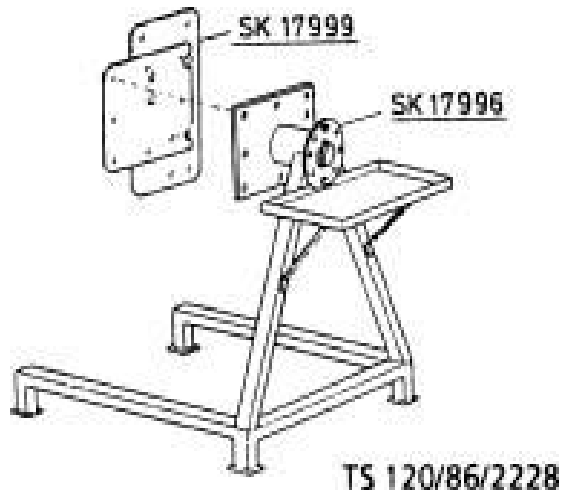
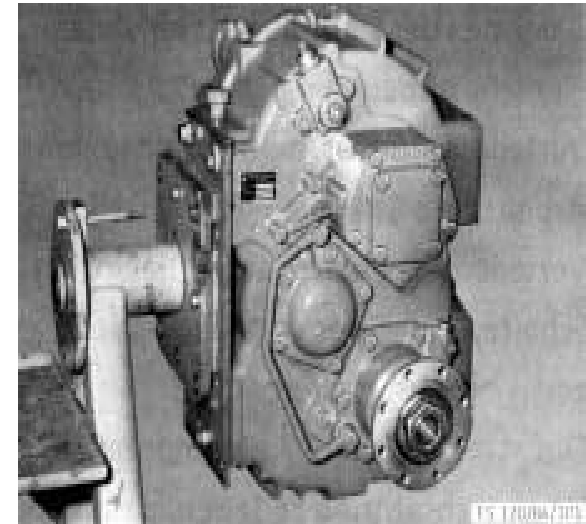

Fig. 5-14
Fig. 5-15
- 1. Use special tools to fix the transfer case on the workbench, refer to Fig. 5-14 and Fig 5-15.